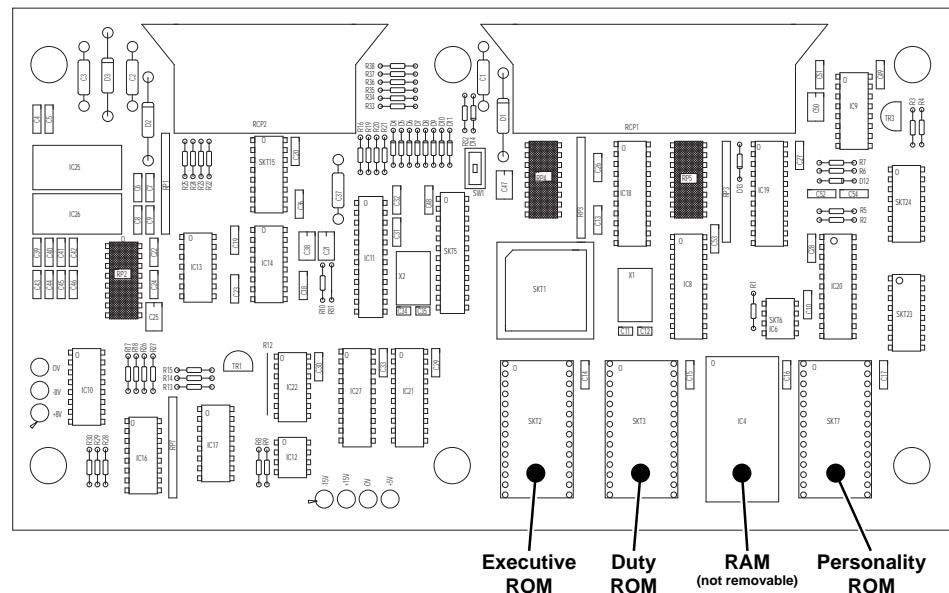

Figure 18 - Processor Board Layout
2. With the power off, remove IC2, the Executive ROM Chip, from its socket. Refer to Figure 18 on page 29.
2. With the power off, remove IC3, the Duty ROM Chip from its socket. Refer to Figure 18 on page 29.
2. Locate the program chip on the computer board. Refer to Figure 18 on page 29.